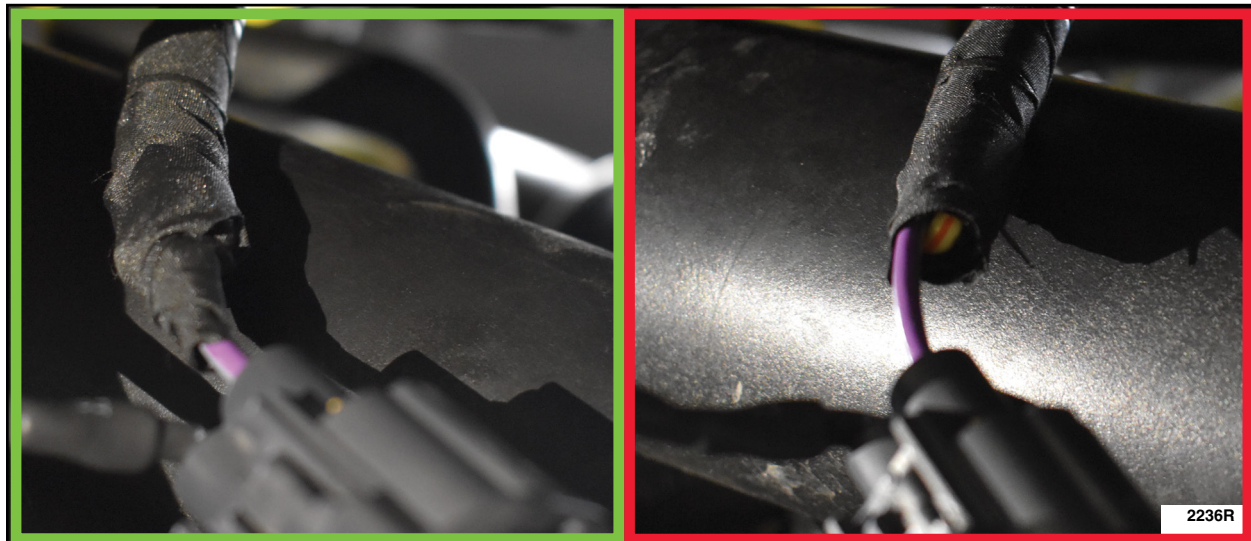

FIGURE 24
28. Add Dual Wall Heat Shrink tubing to cover the open end of the yellow wire with orange tracer. Tuck wire back into conduit and secure wire to bundle with Coroplast tape. See Figure 24.